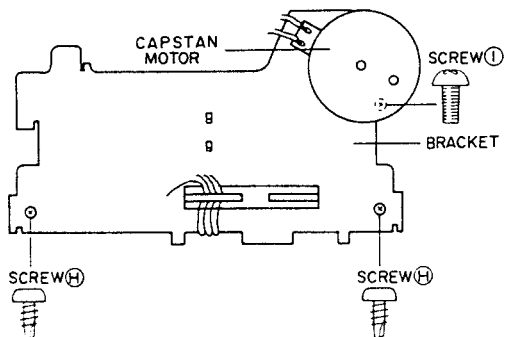

Fig. 3-8
- 2) Remove the bracket retaining screw ㉔ and then remove the bracket. (Refer to Fig.3-8).